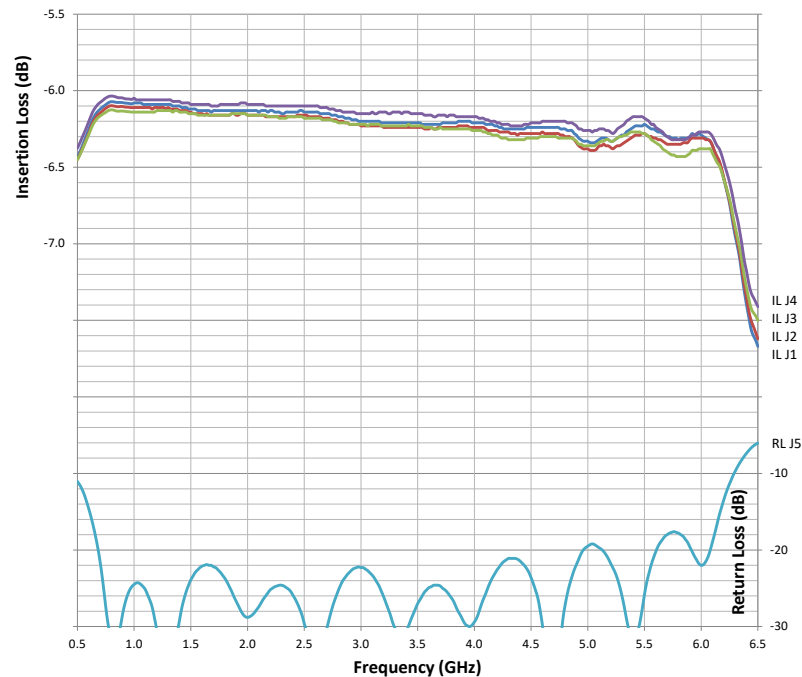

Figure 4-4. Typical 4-Way Splitter Insertion Loss and Return Loss
5. A typical Four-Way Splitter insertion loss is shown in Figure 4-4. The unused ports must be terminated when checking the insertion loss. Typical combined port return loss is shown in Figure 4-4.